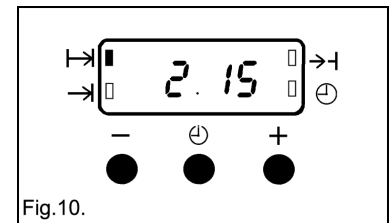

Fig.10.
- iii) To set the length of cooking time, press the Selector Control button until the 'Cook Time' (I→) indicator is illuminated. Press the increase control (+) until the required length of cooking time is displayed, e.g. 2 hrs 15 mins as Fig. 10. Depress the decrease control (-) if necessary.